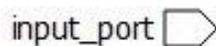
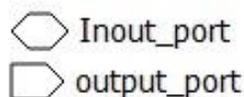

Figure 2.54. Input Port
Figure 2.55. Output Port and Inout Port
- f. Click **OK**. The port appears. Figure 2.54 shows an input port, port name of which is on the left. Figure 2.55 shows an output port and an inout port, port names of which are on the right.